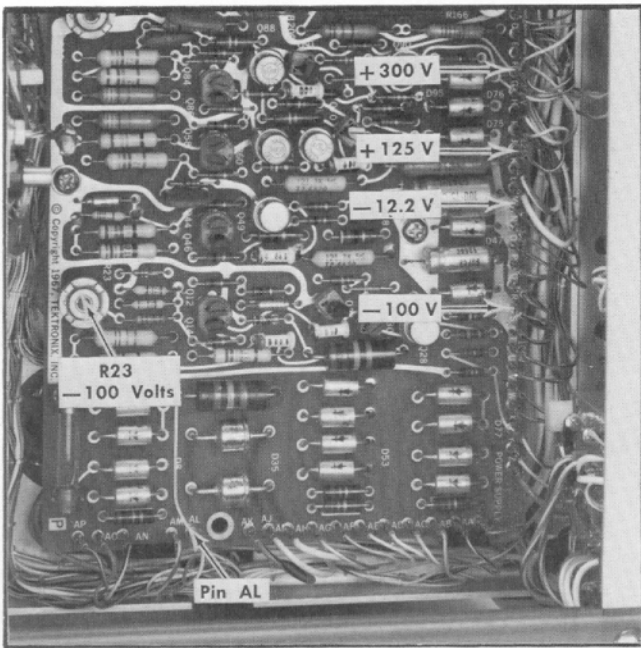

Fig. 5-2. Locations of power supply test points and R23, -100 Volts adjustment.
b. Connect the precision DC voltmeter between the -100-volt test point and ground (see Fig. 5-2).
c. ADJUST—R23, -100 Volts (Fig. 5-2) for exactly -100 volts.
a. Connect the precision DC voltmeter between each low-voltage test point and chassis ground. See Fig. 5-2 for test point locations.